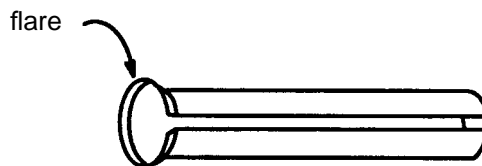

Figure 4 - Split Sleeve
- 4.1.1 Split sleeves as supplied in STDN tool kits. See Figure 4 for a description of the split sleeve.
- 5.2.5 **Split Sleeve:** The split sleeve is fabricated from 301/302 stainless steel (see Figure 4). A dry film lubricant is baked onto the internal surface to ensure optimum lubricity. The split sleeve prevents damage to the hole as the mandrel is drawn through the hole. Sleeves must be $\frac{1}{32}$ " - $\frac{5}{32}$ " longer than the material stackup, depending upon the type of nose cap used.